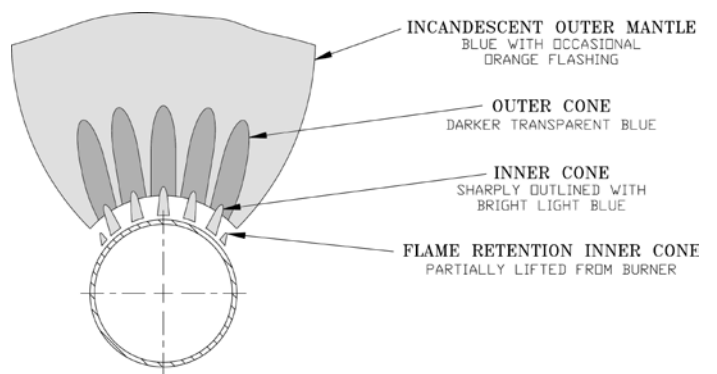

Figure 8: 40mm Main Burner Flame
6. Check main burner flames. See Figure 8 or 9. Flame should have clearly defined inner cones with no yellow tipping. Orange-yellow streaks caused by dust should not be confused with true yellow tipping. If yellow flames are observed, follow instructions TO TURN OFF GAS TO APPLIANCE (see Figure 4) and contact a qualified service agency.